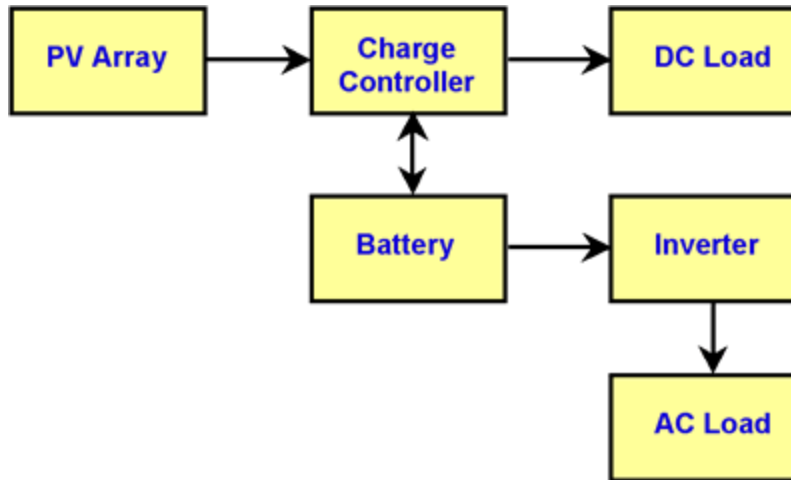

Figure 3. Diagram of stand-alone PV system with battery storage powering DC and AC loads.
- Stand-alone PV systems are designed to operate independent of the electric utility grid, and are generally designed and sized to supply certain DC and/or AC electrical loads. These types of systems may be powered by a PV array only, or may use wind, an engine-generator or utility power as an auxiliary power source in what is called a PV-hybrid system. The simplest type of stand-alone PV system is a direct-coupled system, where the DC output of a PV module or array is directly connected to a DC load (Figure 3). Since there is no electrical energy storage (batteries) in direct-coupled systems, the load only operates during sunlight hours, making these designs suitable for common applications such as ventilation fans, water pumps, and small circulation pumps for solar thermal water heating systems. Matching the impedance of the electrical load to the maximum power output of the PV array is a critical part of designing well-performing direct-coupled system. For certain loads such as positive-displacement water pumps, a type of electronic DC-DC converter, called a maximum power point tracker (MPPT), is used between the array and load to help better utilize the available array maximum power output.
- In many stand-alone PV systems, batteries are used for energy storage. Figure 3 shows a diagram of a typical stand-alone PV system powering DC and AC loads. Figure 4 shows how a typical PV hybrid system might be configured.